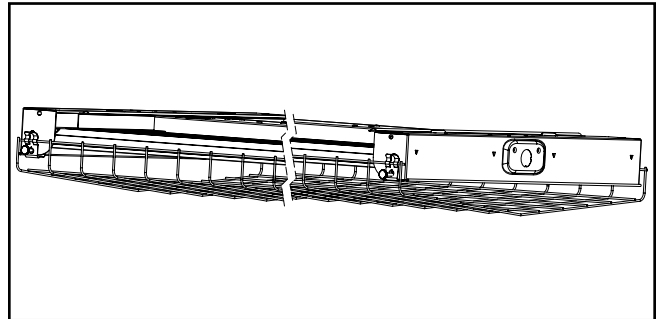

Figure 4.
5. Repeat steps 2 to 4 for opposite side (Figure 4.).